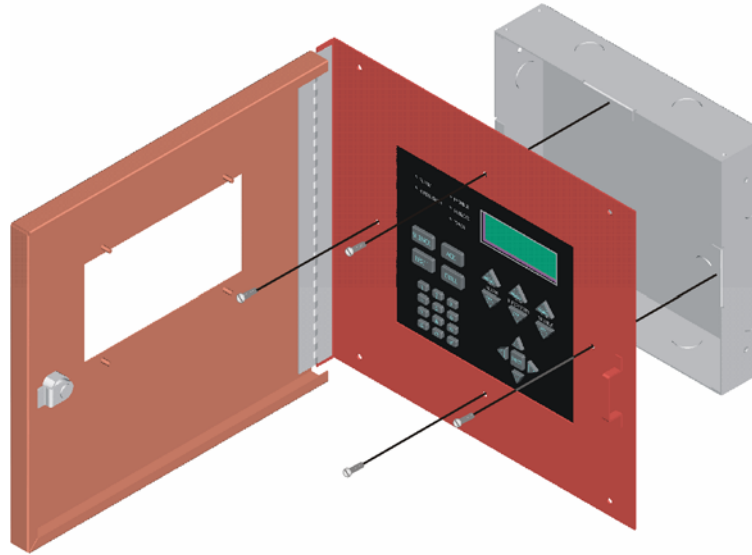

Figure 4.18 Attaching Annunciator/Door Assembly to Backbox
- Attach the annunciator and door assembly to back box as shown in Figure 4.18 using the supplied screws.
4. Attach the annunciator and door assembly to back box as shown in Figure 4.18 using the supplied screws.